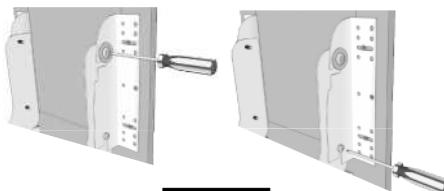

fig. 7
Step 9. Hang door with brackets attached on the mounting screws on the product member. Tighten bottom screws securely. Tighten top screws (with washer) snugly allowing for future adjustment. (See figure 7)